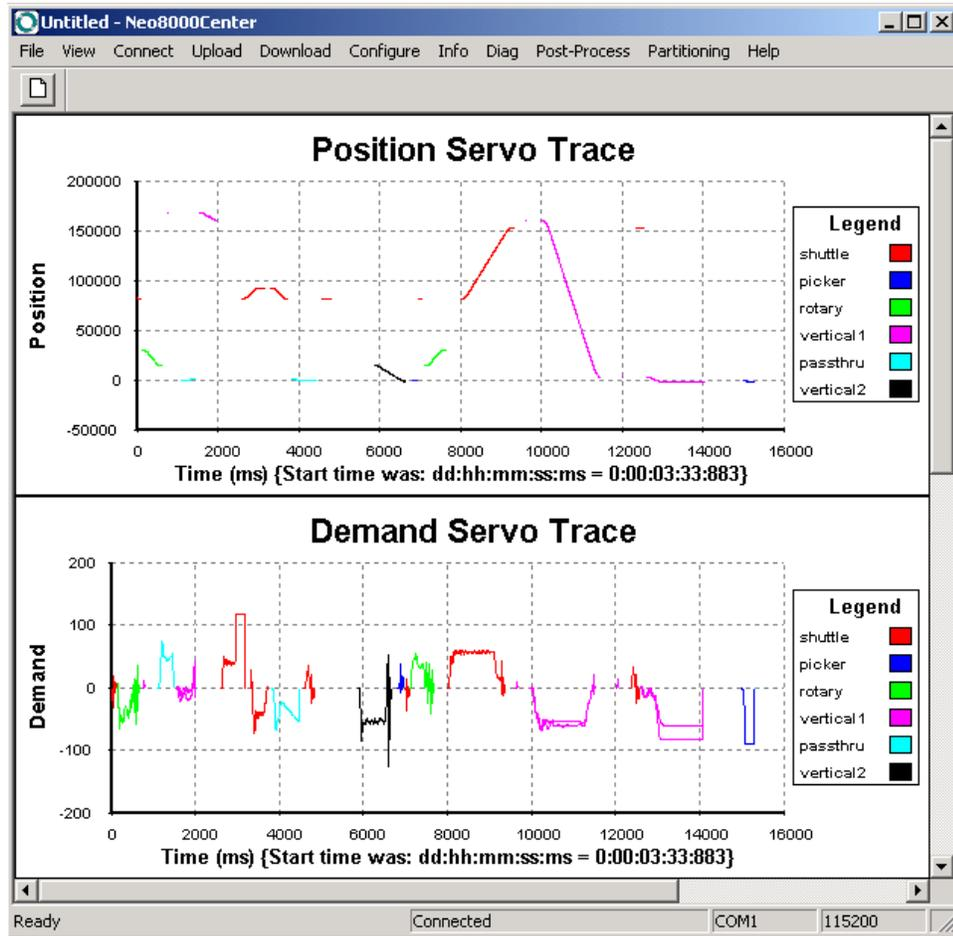

Figure 7-22: Post-Process Display Screen
7. Close **Notepad** to view the graphs displayed (Figure 7-22) in the Neo8000Center window.